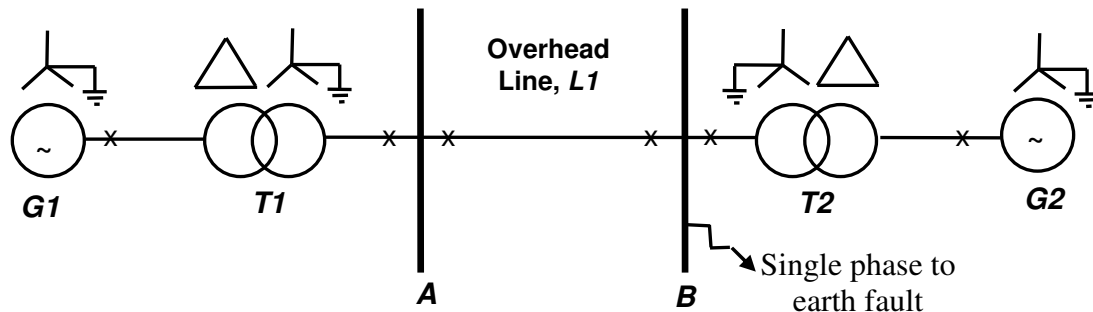

Figure B4.1 Line diagram of Power System
Figure B4.1 shows the single-line diagram of a power system comprising two 132kV busbars, *A* and *B*, connected together by an overhead transmission line. Each busbar is supplied from a generator via a step-up transformer. The star points of generators *G1* and *G2* and transformers *T1* and *T2* are all solidly earthed. A single phase to earth fault occurs on busbar *B*.
- Calculate all the per-unit reactances of the system using a reference base of 90MVA. (4)
- Draw the positive, negative and zero sequence diagrams for the system. (6)
- Determine the total fault current when a single phase to earth fault occurs at busbar B. (4)
- Hence calculate the current which flows in each phase of the 132kV overhead transmission line during fault conditions. (5)
- The power system is upgraded and the star point of generator *G1* is now connected to ground through an earthing reactor (instead of being solidly earthed) and generator *G2* is replaced by a machine having delta connected windings (the MVA rating, voltage rating and per-unit reactances remain the same). Comment on the effect this would have on the level of fault current for the system and type of fault shown in figure B4.1. Briefly justify your answer. (1)